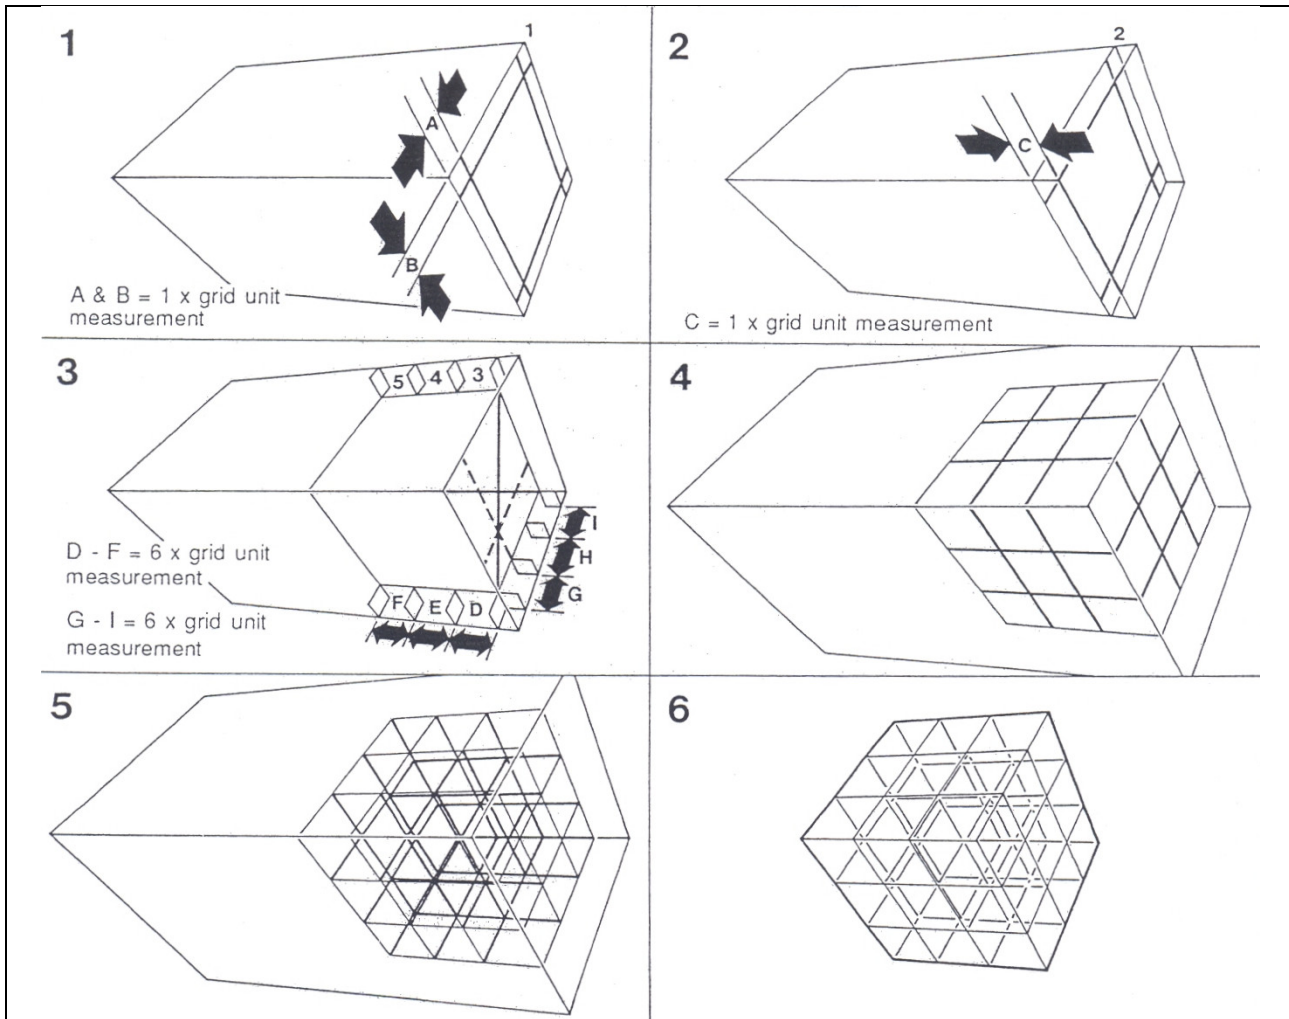

Figure 5.2 Construction of a Rubik Cube
2. Figure 5.2 shows seven steps in a step by step guide to be followed in drawing the Rubik Cube in 3-point perspective. The 3-point perspective illustration is drawn according to the dimensions of the Rubik Cube as shown.
1. Construct the Rubik Cube by creating one by one unit squares in each corner of the top face of level one of the grid, as shown, and project lines through to VP 45° up and down. Move down one unit measurement to create the top face of the Rubik Cube, or level two in both horizontal planes. Refer to Figure 5.2 Step 1.
1. As each square on the Rubik Cube for this exercise is two unit measurements on the grid, move down two units and create level three. Repeat this process for levels four and five. The Rubik Cube is now positioned in the middle of the grid, one unit in from each side and one unit down from the top of the grid. Refer to Figure 5.2 Step 2.
1. Complete the Rubik Cube by projecting the horizontal points A B C and D along the outside of the grid to level two and then across in perspective to VP 45° up and down. Refer to Figure 5.2 Step 3.
1. Where these lines intersect points E F G and H describe through to VP 20° left. Refer to Figure 5.2 Step 4.
1. From E F project lines down to VP 45° down and from I and J project down to VP 45° down and up. Refer to Figure 5.2 Step 5.
1. Complete each cube in the Rubik Cube by using all three vanishing points. Refer to Figure 5.2 Step 6.